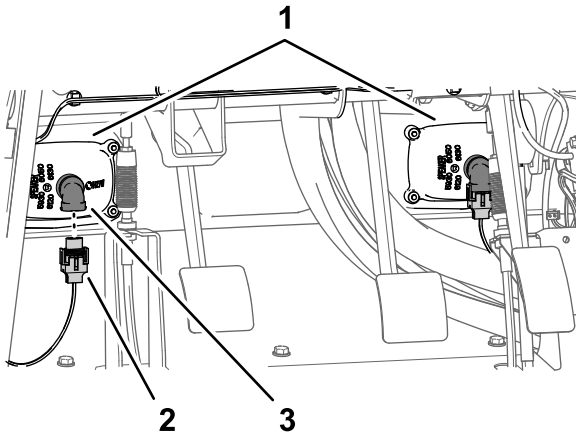

Figure 19
1. Disconnect the 2 electrical connectors (2-socket) of the machine wire harness from the 2-pin connectors of the left and right headlights (Figure 19).